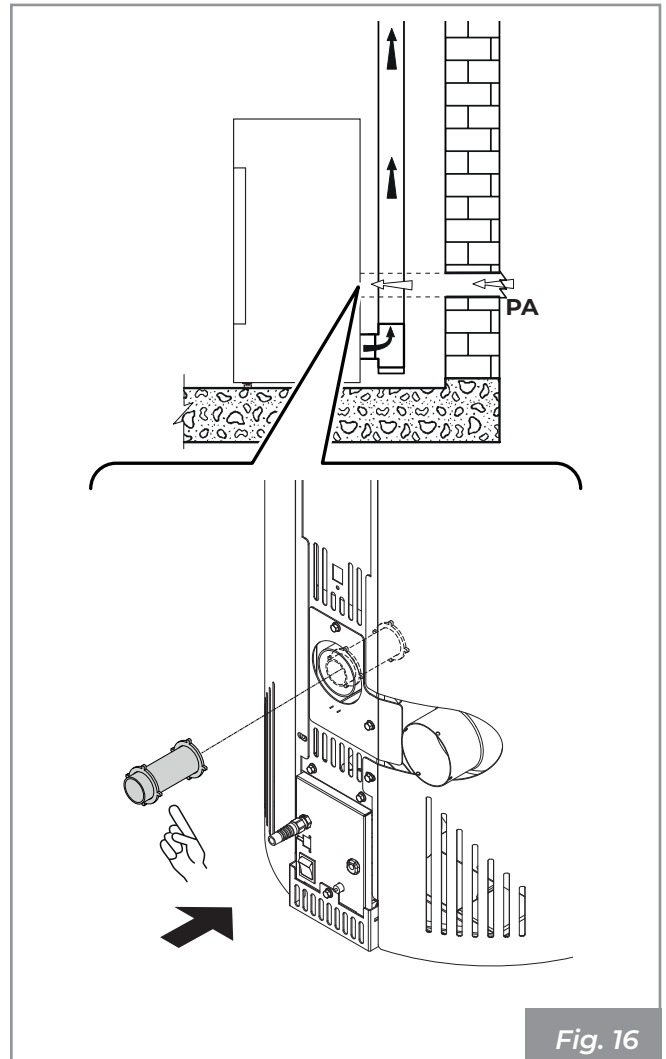

Fig. 16
- it can come from the installation room or suitable adjacent rooms (**Fig. 16**)
Create the air intake on the wall (**Fig. 16 - PA = Air Intake**), and leave the appliance to withdraw the room air, making sure to connect the provided pipe on the air inlet pipe, to prevent any resonance effects.